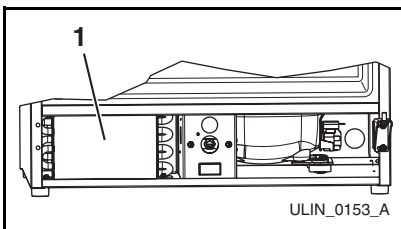

Figure 6
5. Clean the condenser coil (Figure 6, 1) using a soft brush with a "combing" action or vacuum cleaner. Do not touch the condenser coil.